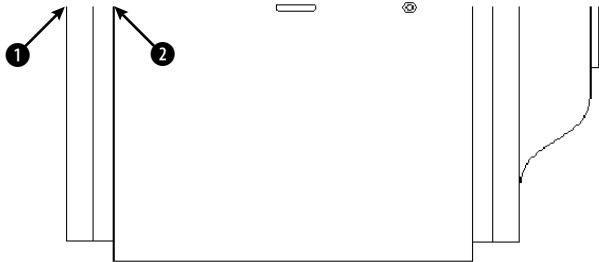

Figure 10-37: This small section of a drive block, seen from above, can easily be edited with grips.
2. Save the file as ab10-12.dwg in your AutoCAD Bible folder. This is a small section of a drive block, seen from above, as shown in Figure 10-37. Make sure ORTHO and OSNAP are on.
4. Pick the grip at ❶ in Figure 10-37 to activate it. You see the following prompt:
10. Pick the grip at 2 in Figure 10-37 to activate it. Right-click and choose Rotate from the shortcut menu. At the Specify rotation angle or [Base point/Copy/Undo/Reference/eXit]: prompt, type 90 ↵. This action rotates the model.